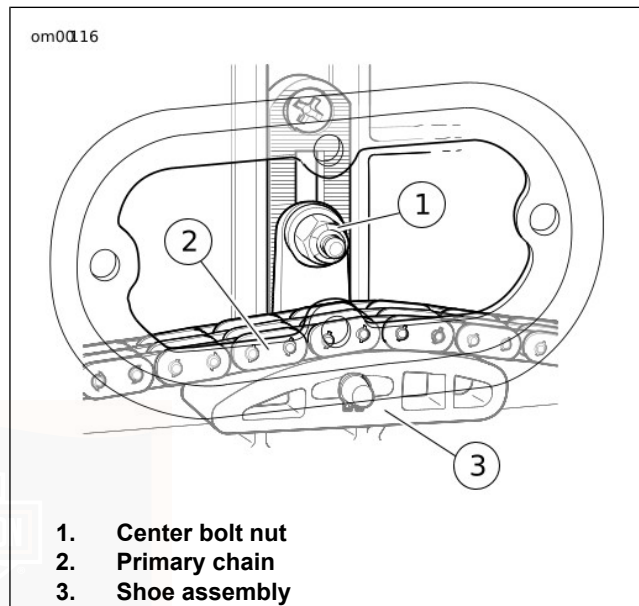

Figure 49. Chain Tensioner Assembly
1. See Figure 49. Locate the chain tensioner assembly and loosen the top center nut a maximum of two turns.